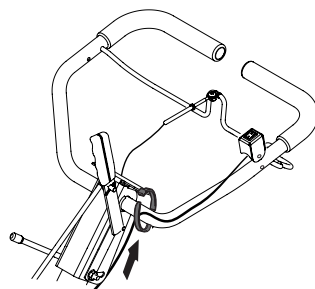

Figure 5
3. Route the wire over to the left side of the handle and secure with a cable tie on the lower part of the handle. See Figure 5.